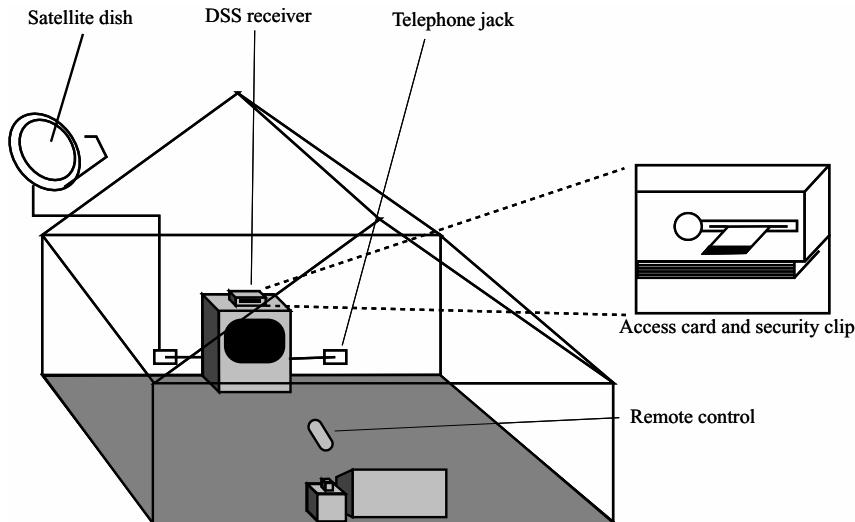

FIGURE 6-21 A typical DBS home installation setup plan. (Courtesy of Thomson Multimedia.)
- **DSS system home view** Figure 6-21 illustrates the parts of the system required inside your home and satellite dish outside the house.
- **Security card clip** The clip is installed (Fig. 6-21). This clip fits over the Access Card and helps prevent the card from being inadvertently removed. To remove the clip, squeeze the top and bottom together and slide the clip off of the Access Card.